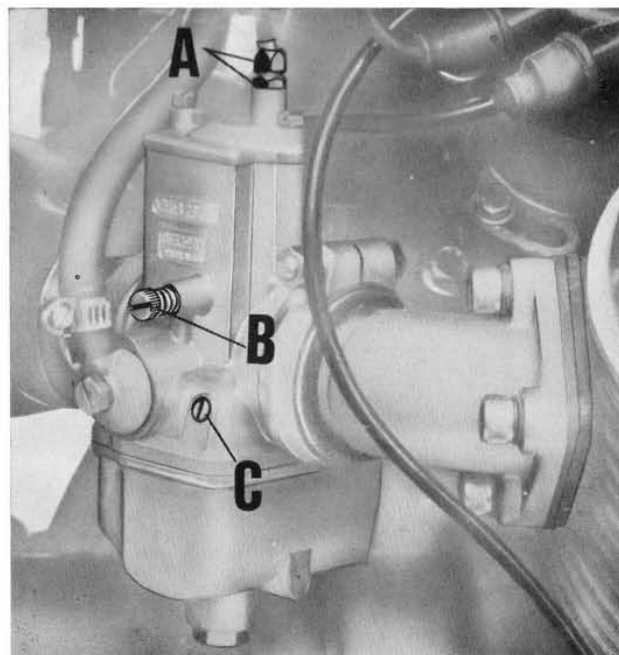

Fig. 17
Should one valve open before the other, correct by setting screw A (See fig. 17) in the position where by turning the throttle both valves open simultaneously.
- 3) Adjust the idling speed by acting on screw C in fig. 17. Screwing this in reduces the fuel flow and viceversa increases it. To adjust, tighten the screw and then undo it $1\frac{1}{2}$ -2 turns for the left cylinder carburetor and 2- $2\frac{1}{2}$ turns for the right cy-
linder carburetor. With the engine revolving at about 1000-1200 r.p.m., disconnect the plug lead of any one of the cylinders and lightly turn screw C in fig. 17 of the opposite carburetor on to the position which will give the best idling speed, i.e. until the engine revs increase slightly. The same operation should be repeated
- 4) Disconnect the R/H cylinder plug lead, start the engine, and ensure that it stops after firing 4 or 5 strokes. If it dies out earlier or later, it is necessary to adjust idling screw B in fig. 17 to the point where the engine will stop after firing 4 or 5 times.
If the R/H cylinder is normal, the engine should stop after firing 4 or 5 times. If not, screw B in fig. 17 should be similarly adjusted to the position where it does so. The L/H cylinder plug lead is then reconnected.